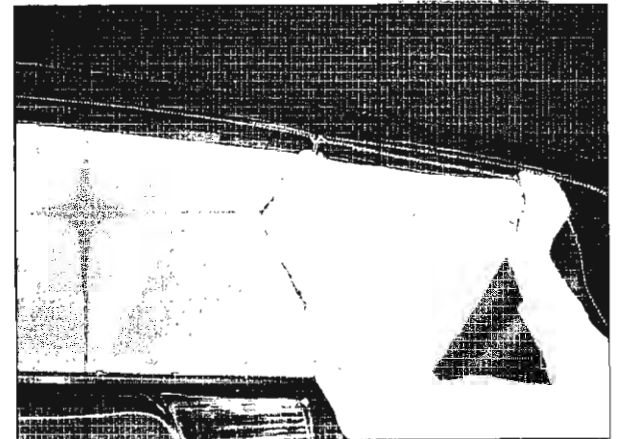

Fig. 21-20 Raising Rear Window
1. Hold window in its approximate closed position; then slide zipper along top of window and down side to its closed position as shown in Fig. 21-20.